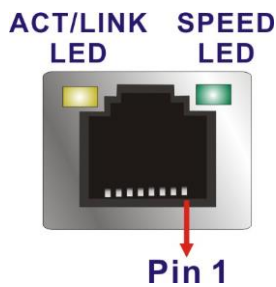

Figure 3-19: LAN Connector
- CN Location:** See Figure 3-19